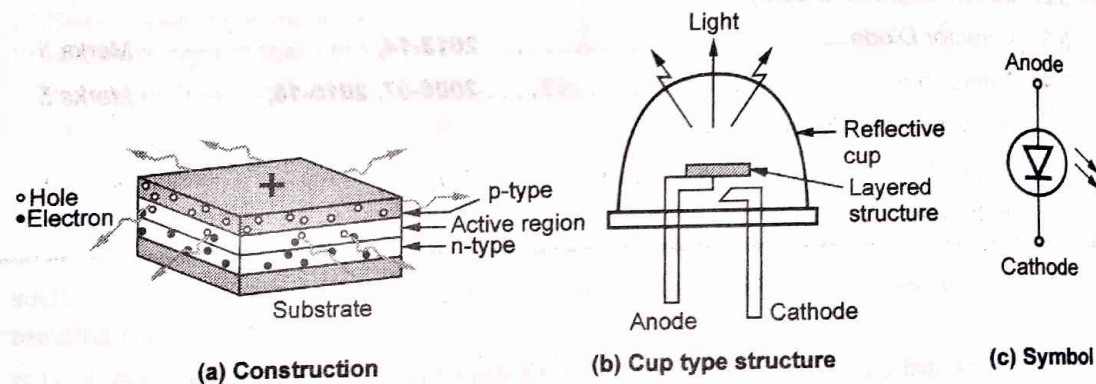

Fig. 3.1.1 LED
- In LED three semiconductor layers on the substrate are used as shown in the Fig. 3.1.1 (a). In between p type and n type region, there exists a region called active region. This region is responsible for the emission of the light.
- The LED emits light all the way around the layered structure. This layered structure is placed in a tiny reflective cup so that the light gets reflected towards the desired exit direction. This cup type structure is shown in the Fig. 3.1.1 (b) while the symbol of the LED is shown in the Fig. 3.1.1 (c).